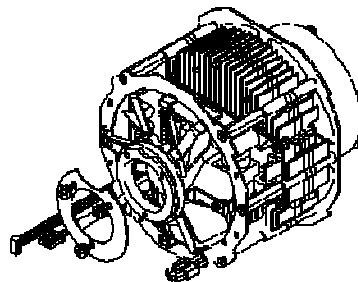

Fig.2
6. Place HPLLED II T on working bench and start loosening the 3 M4 screws that hold the metal ring (marked by red arrow in figure 2).